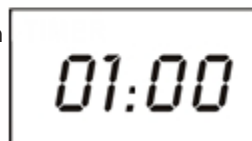

Fig.2
- (2) Press PROG button one time, the LED will illuminates in blue and flash. (means the coffee make enter the presetting time state.)
- (3) Set the delayed starting time by pressing HR and MIN button repetitively, that is 01:00 (see Fig. 2).
- (4) Press the ON/OFF twice, the LED is illuminated in blue. After a while, the LCD will display the current clock. You may see the automatic start time by pressing PROG.